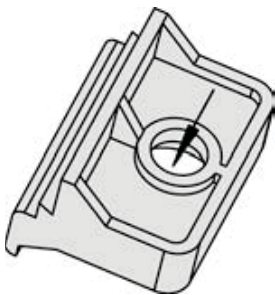

Fig. 14: Insert screws in clamps
3. ➤ Insert the four clamping screws into the clamp inserts from the shown side (Fig. 14; opposite the nut insert) until they are almost flush. Do not completely insert the screws into the clamp inserts.